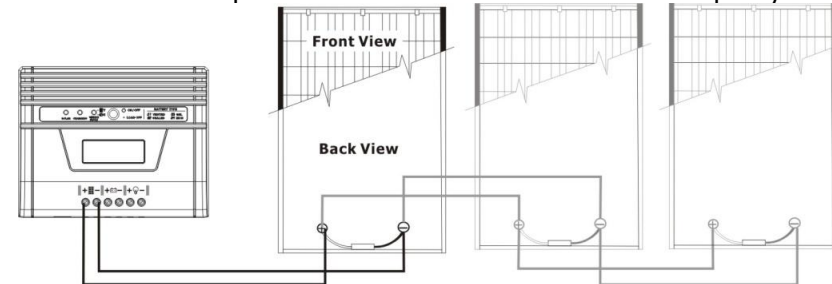

Fig. 9
**3) Multiple solar modules in parallel connection (Refer to Fig. 9):** Each module's voltage must be equal to the Nominal DC Voltage of the unit. And, the sum of their solar power must not exceed the maximum capacity of the unit.